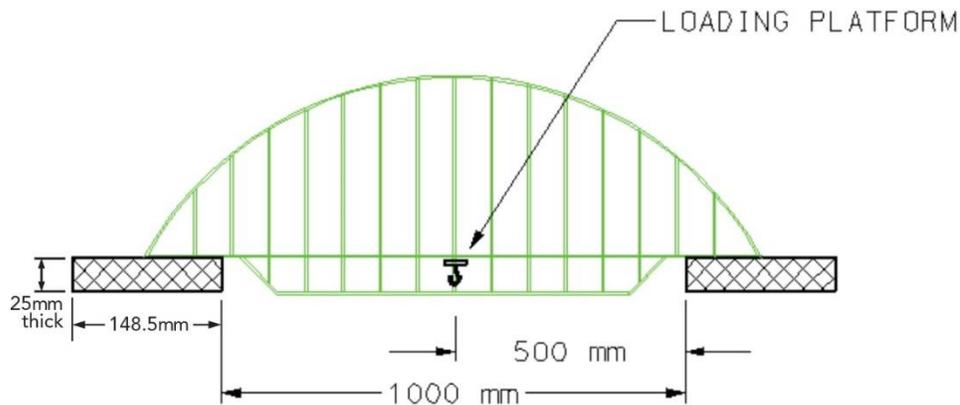

Figure 7: Location of Loading Platform
- The loading platform must be attached at the mid-span of the bridge (see Figure 7)